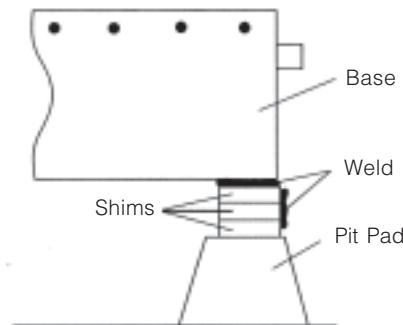

Figure 3-5. Weld Shims
- 6. If shims were used, weld shims in place to form a solid foundation (see Figure 3-5).